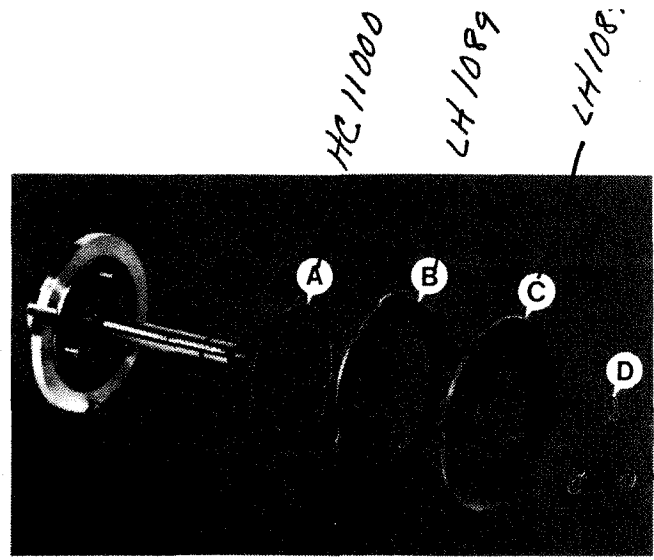

Figure 1.11 - Carriage Clutch Components
- c) Remove snap rings "D", clutch disc "C", clutch plate "B", and wave washer "A", Figure 1.11 .